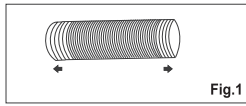
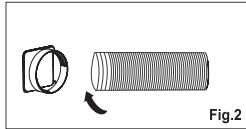

Fig.1
Fig.2
1. Extend either side of the hose (Fig. 1), and screw the hose inlet (Fig. 2).
Before change, in cool mode, the screen display like fig 1 (°C).
After change, in cool mode, the screen display like fig 2 (°F).